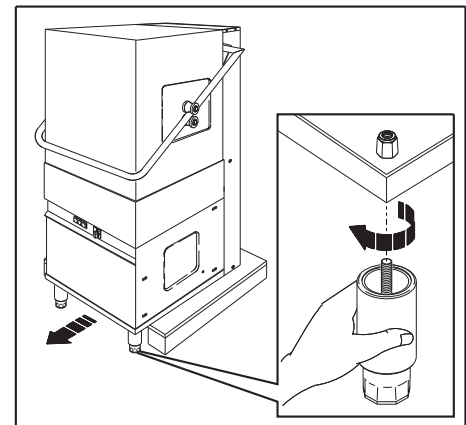

Fig. 4
3. Move the machine on the pallet until freeing of two of the four holes for insertion of the support feet (fig. 4).
Take one of the supplied feet and tighten the screw in one of the two seats vacated (fig. 4).
Proceed with installation of the second foot following the the same procedure (fig. 4).